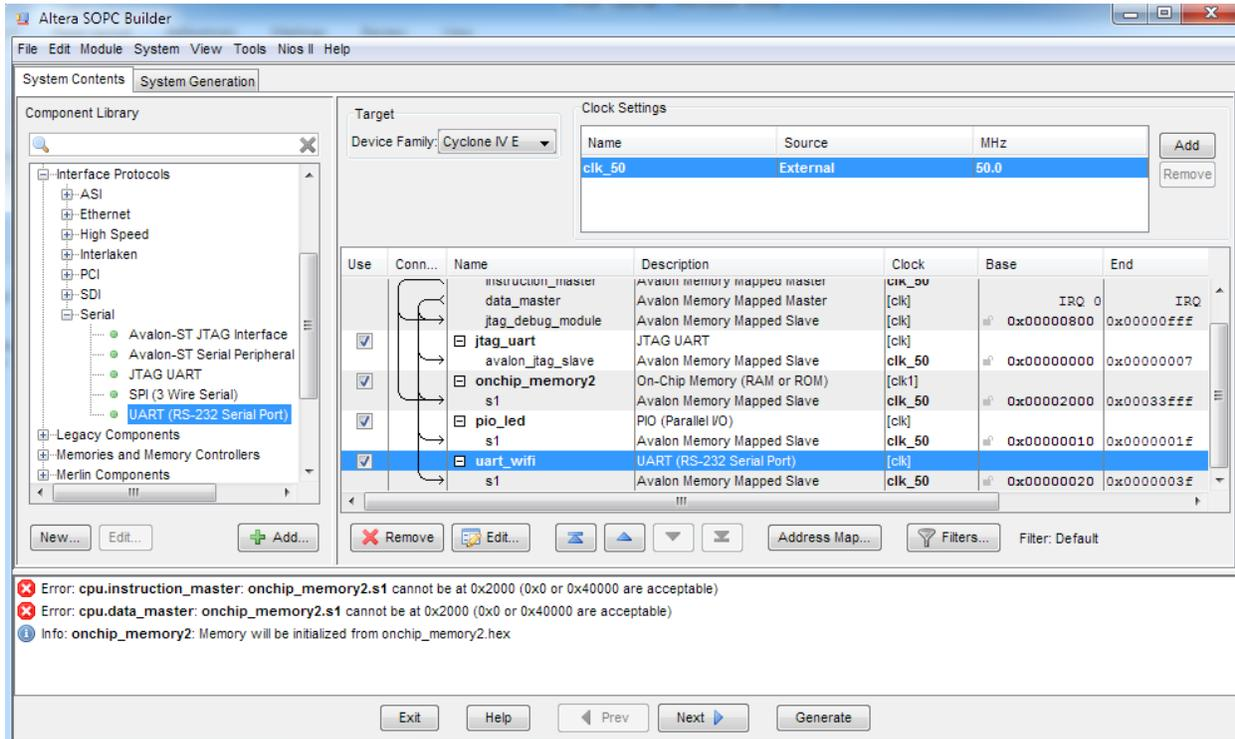

Figure 1-37 Rename UART
24. Rename `uart_0` to `uart_wifi` as shown in Figure 1-37.